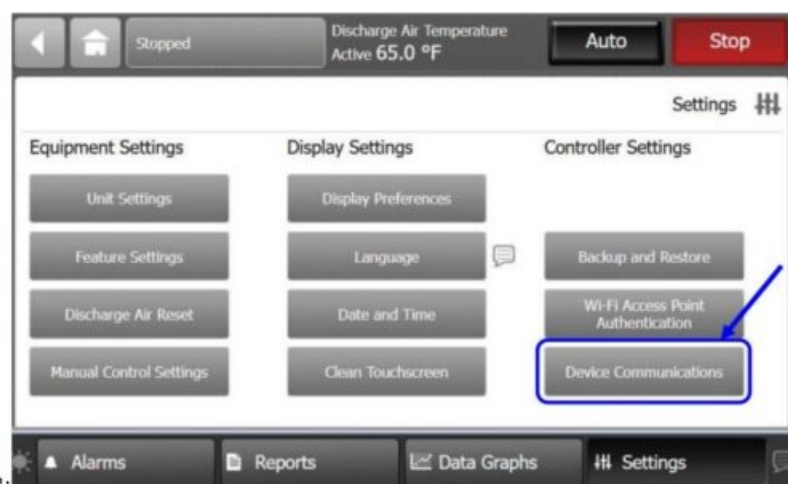

Figure 3:
2.1. Open Trane Display TD7 and click on the 'Device Communications' button (figure 3).